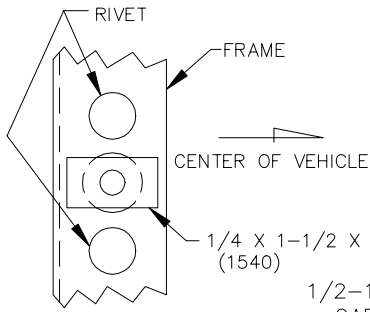

FIGURE 1
- NOTE: ON 6' BED MODELS, 1/4 X 1-1/2 X 2 BLOCK (1540) LOCATED AT FORWARD-MOST ATTACHMENT ON DRIVER'S SIDE MAY BE ORIENTED AS SHOWN IN FIGURE 1, IF NECESSARY, TO INSURE CLEARANCE OF RIVETS.